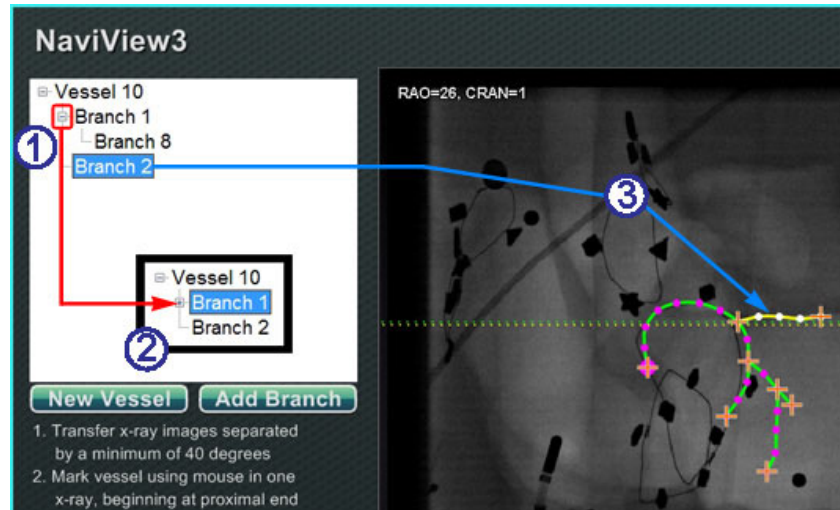

Figure 134. Directory tree tracks vessels and branches
Following the process outlined above, the user can create more branches off existing branches and trunks (**Figure 134**). The user can create as many vessels and branches as desired.
Add More Branches Guide (Figure 134)
- ① As the user adds vessels and branches, the directory tree grows. The indentation of each branch name indicates the branch level. So, a branch name indented twice is the branch of a branch.
- ② The user can expand and collapse the vessel and branch names as branches are added beneath them. For example, to collapse Vessel 1 in **Figure 134**, click the minus (–) sign. Only the name Vessel 1 will display. The user can also collapse Branch 1. The user can expand either group by clicking the plus (+) sign.
- ③ Click a vessel or branch name to select that vessel or branch. The name is highlighted with a bright blue rectangle, and the drawing is highlighted in the selected mode colors: yellow and white.